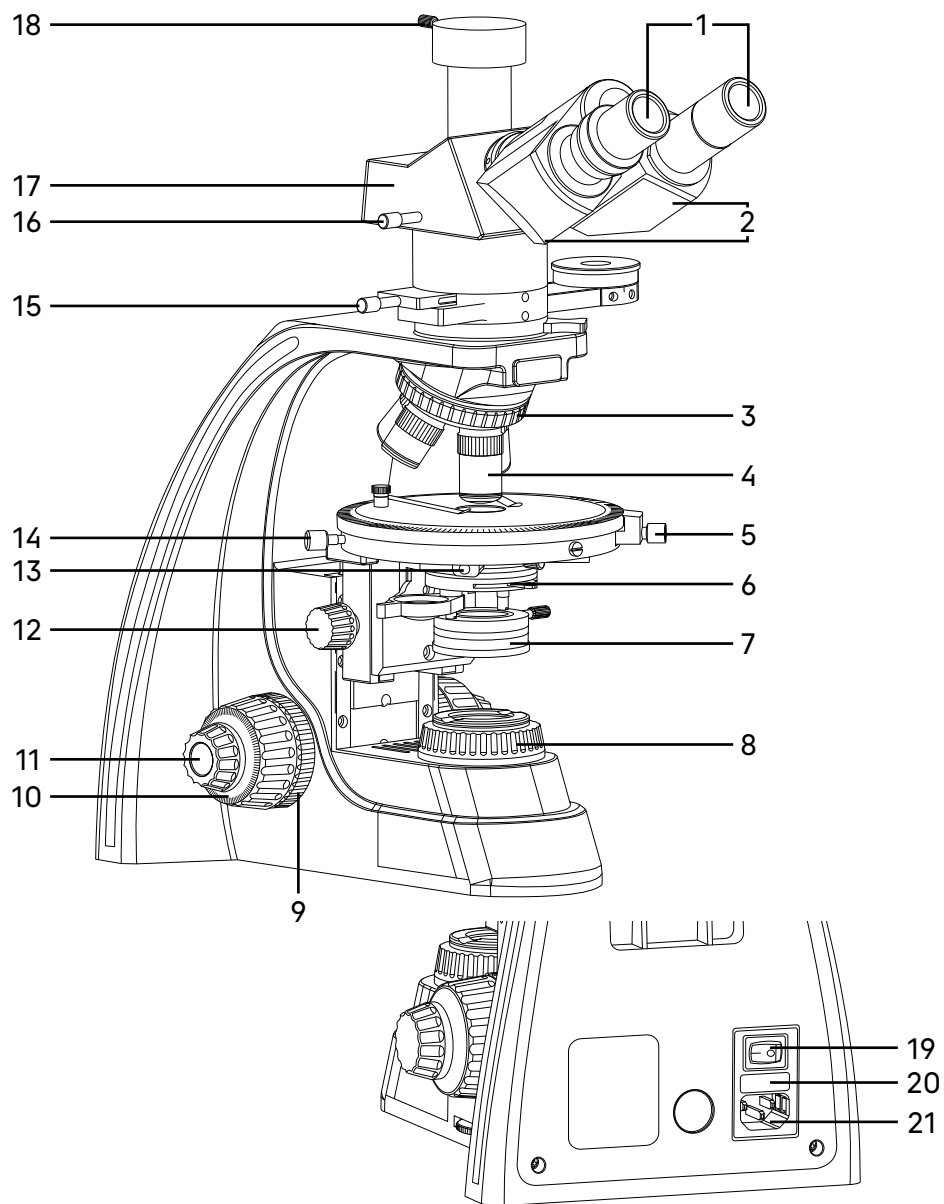
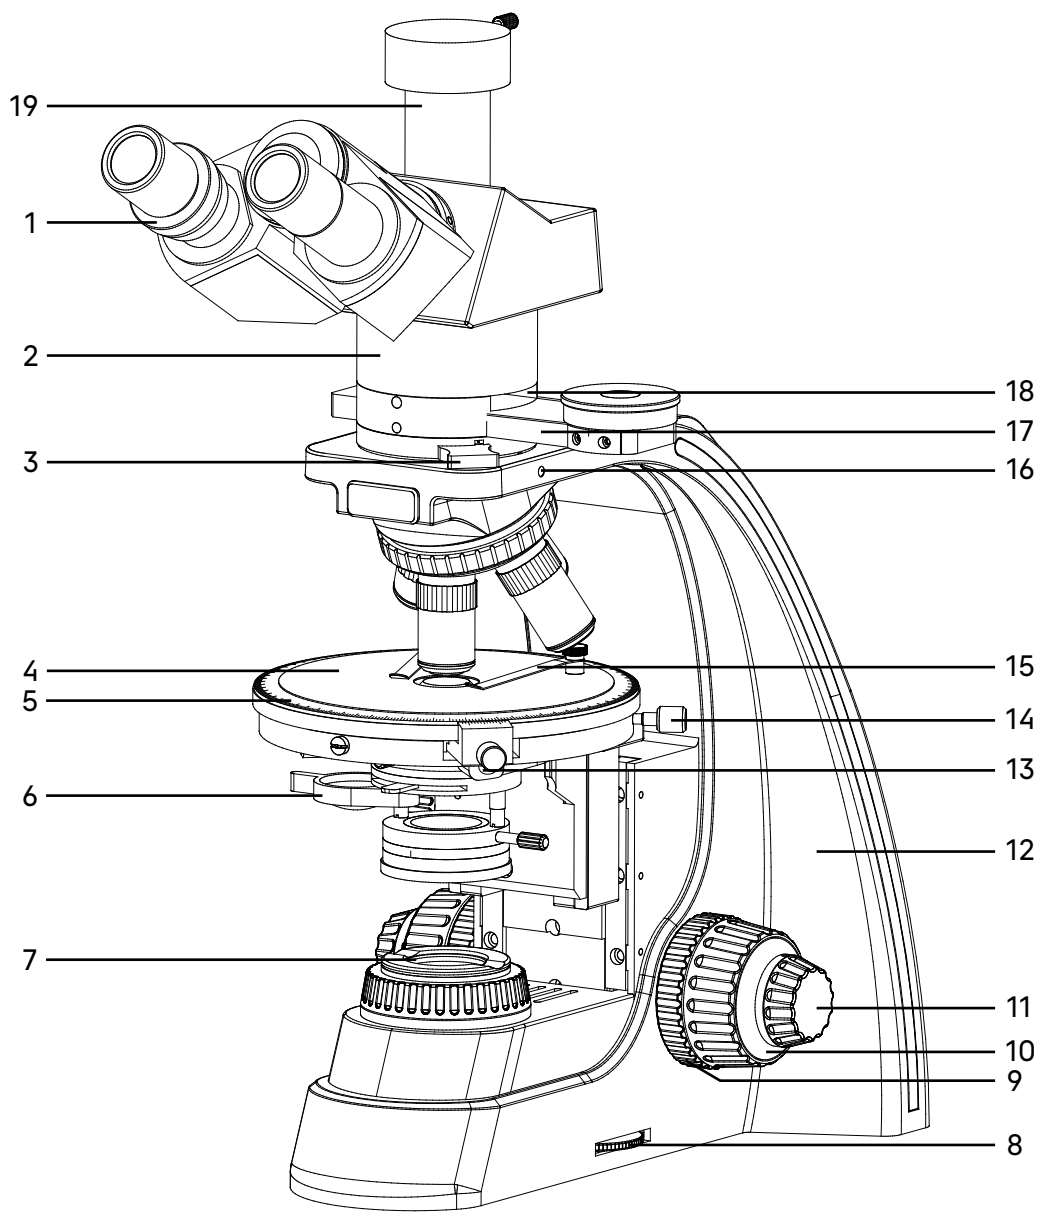

Fig. 1. MAGUS Pol 800 Microscope. View from the left
Fig. 2. MAGUS Pol 800 Microscope. View from the right
The general view of the microscope is given in Fig. 1 and 2.
The stand 12 (Fig. 2) has stable ergonomic design. Parts attached to the stand:
- revolving nosepiece 3 (Fig. 1) with objectives 4 (Fig. 1)
- stage 4 (Fig. 2)
- condenser mount (not shown in Fig. 1 and 2)
- collector 8 (Fig. 1).
The back panel of the microscope stand contains an ON/OFF switch 19 (Fig. 1), fuse holder 20 (Fig. 1), and a connector for the AC power cord 21 (Fig. 1), which connects the microscope to an AC outlet.
There is a brightness adjustment ring 8 (Fig. 2) on the right of the stand.
Focusing on the specimen is achieved by adjusting the height of the stage. Coarse focusing is performed by rotating the coaxial knobs 10 (Fig. 1, 2) on both sides of the microscope stand.
Fine focusing is performed by rotating the knobs 11 (Fig. 1, 2) on both sides of the microscope stand. Fine focusing allows for more precise focusing on the specimen and re-focusing the microscope to get an accurate image resolution when changing objectives and specimens. Fine focusing scale value: 2 μ m.
The coarse focusing tension adjustment is performed by the ring 9 (Fig. 2) between the stand and the coarse focusing knob on the right side. The ring adjusts the coarse focusing tension so that the tension is convenient for the user, but the revolving nosepiece with objectives does not lower spontaneously during operation.
The coarse focusing lock knob 9 (Fig. 1) is located on the left side. Once the coarse focusing is completed, we recommend rotating the knob clockwise as far as it will go. This secures the coarse focusing position to allow for rapid re-focusing after the specimen is changed.
The trinocular head 17 (Fig. 1) provides the visual observation of the specimen image. The microscope head is installed in the slot of the intermediate attachment.
An imaging system with a monitor is installed in the trinocular tube 19 (Fig. 2) using a C-mount adapter. You can switch the light path to the trinocular tube using the lever 16 (Fig. 1). The lever has two positions: 100/0 and 0/100.
The microscope kit includes eyepieces 1 (Fig. 1) and an eyepiece with crosshairs. The eyepieces have long eye relief and are designed to work with or without glasses.
The revolving nosepiece 4 (Fig. 2) allows for the installation of five objectives. The free slot is used to adjust the bulb position in the reflected light illuminator and install an additional objective. Objectives are changed by rotating the knurled ring of the revolving nosepiece until the objective fits into place.